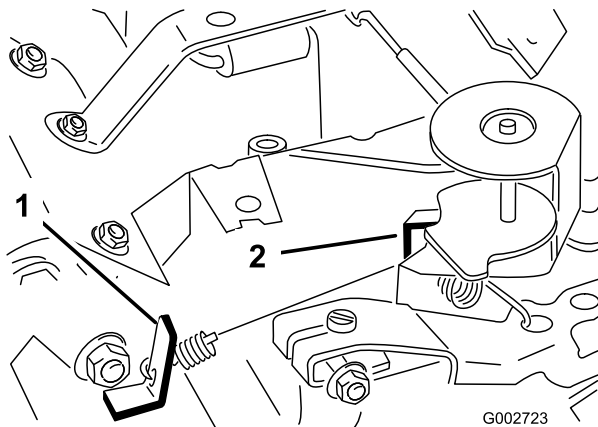

Figure 29
3. Bend the governed idle spring anchor tang (Figure 29) to attain an idle speed of 1750 ± 50 RPM. Check the speed with a tachometer.
5. Move the throttle control to the Fast position. Bend the high speed spring anchor tang (Figure 29) to attain a high speed of 3150 ± 50 RPM.